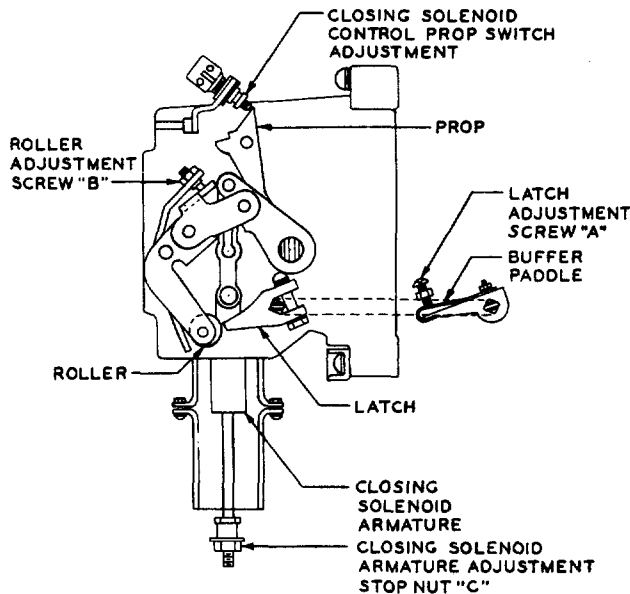

Fig. 5 - Adjustments — Breaker in Open Position
**\*#2.08 Latch Adjustment:** See Fig. 5.
\*#3.08 *Latch Adjustment:* See Fig. 5 — (Reqt 2.08)